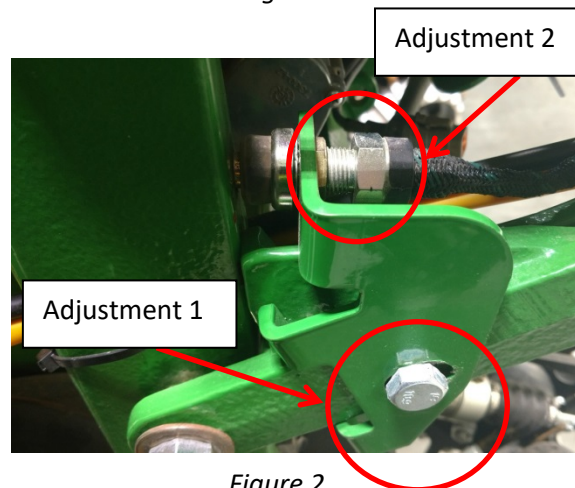

Figure 2
Step 2: If the bracket can be shifted, move it so that the push button is **just** being depressed by the goal post (Figure 2) and the 2020 SeedSense shows the position change under **Setup-Diagnose-AUX**. If further adjustment is required or if the bracket cannot be shifted, use the locking nut on the implement switch to adjust the position. (*Adjustment 2*)